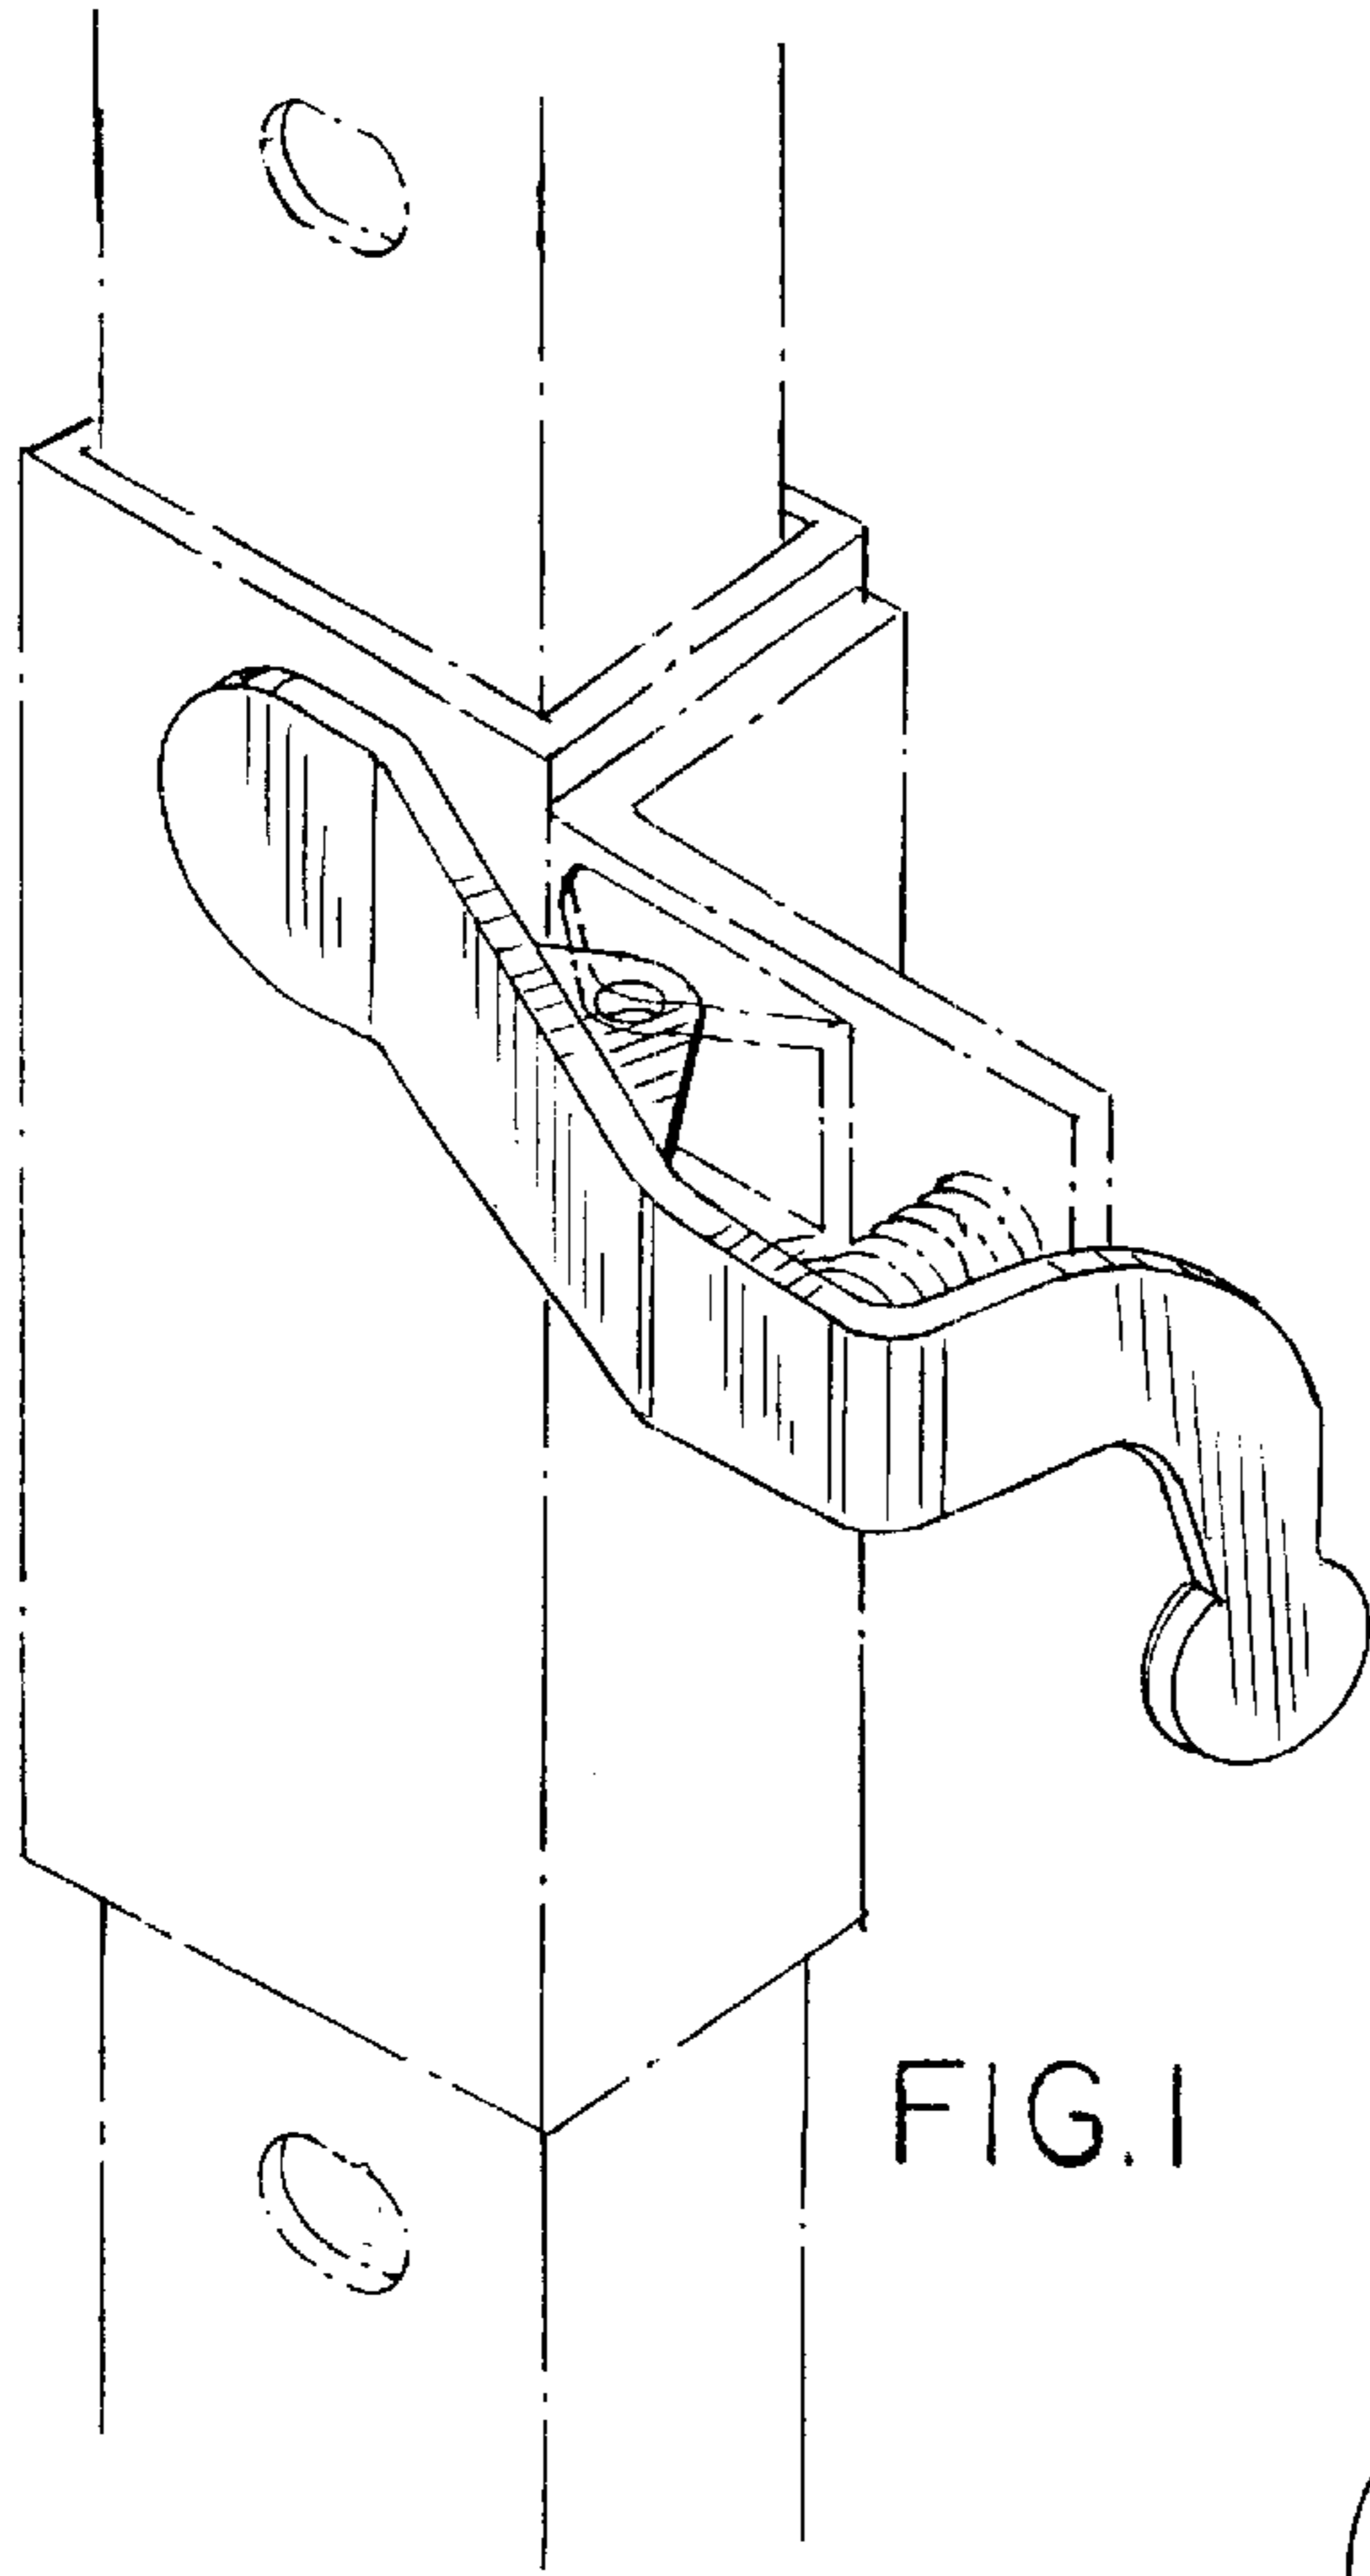

FIG. 1
- FIG. 1 is a perspective view of a thumb-activated adjustment lever showing our new design, associated adjustable structure being indicated in broken line;